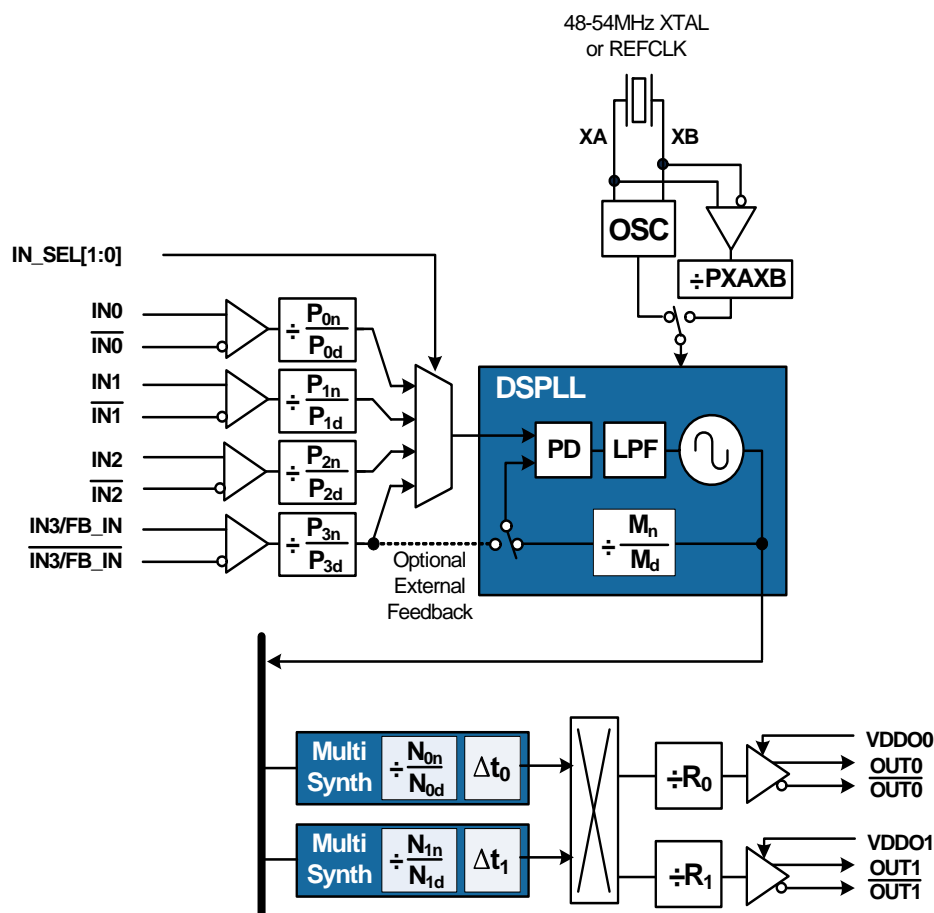

Figure 2. Si5342 DSPLL and Multisynth System Flow Diagram
The DSPLL is responsible for input frequency translation, jitter attenuation and wander filtering. Fractional input dividers (P_{xn}/P_{xd}) allow the DSPLL to perform hitless switching between input clocks (IN_x) that are fractionally related. Input switching is controlled manually or automatically using an internal state machine. The oscillator circuit (OSC) provides a frequency reference which determines output frequency stability and accuracy while the device is in free-run or holdover mode. Note that a XTAL (or suitable XO reference on XA/XB) is always required and is the jitter reference for the device. The high-performance MultiSynth dividers (N_{xn}/N_{xd}) generate integer or fractionally related output frequencies for the output stage. A crosspoint switch connects any of the MultiSynth generated frequencies to any of the outputs. A single MultiSynth output can connect to two or more output drivers. Additional integer division (R) determines the final output frequency as shown in Figure 2.